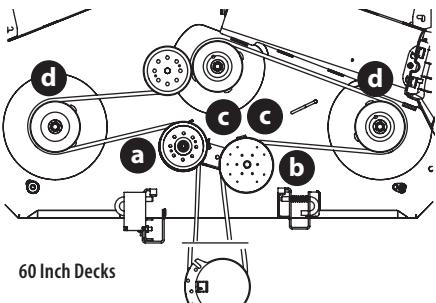

Figure 50
2. Loosen, but do not remove the hardware on the right (a) and left idler pulley (b). See this page for 42 inch decks (Figure 47), 46 inch decks (Figure 48), 50 and 54 inch decks (Figure 49) and 60 inch decks (Figure 50 on page 32).